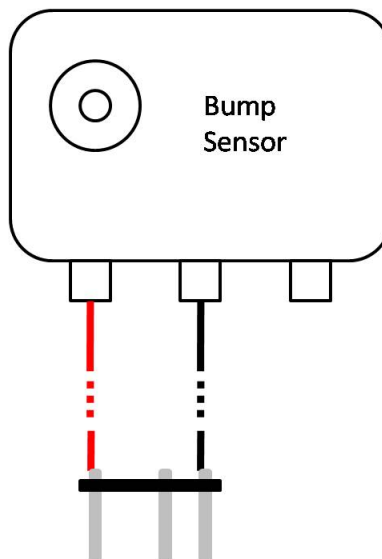

Figure 1: Bump sensor schematic, The header has 3 holes. Solder to its outside holes from the “COMM” and “NO” heads.
1. Solder together your bump sensors. See Figure 1.